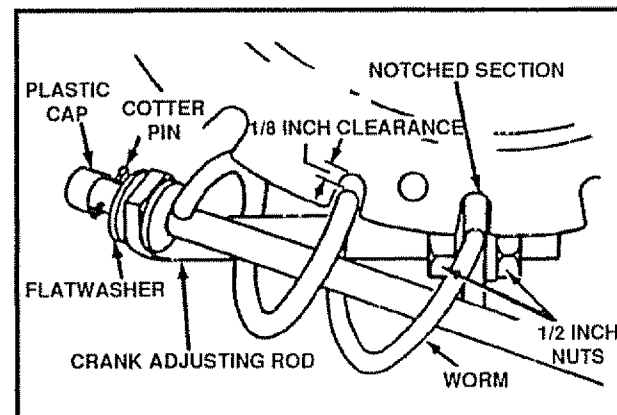

FIG. 5
- Remove the plastic bag, the plastic cap, the cotter pin and the washer from the crank assembly and set aside (See Fig. 5)
- Rotate the notched section of the discharge chute toward the crank-adjusting rod (See Fig. 5)
- Install the wormed end of the crank through the hole in the adjusting rod and secure the end with the flatwasher and cotter pin, as shown in Fig. 5
- Rotate the chute crank fully clockwise and fully counter-clockwise. The discharge chute should rotate fully with approximately 1/8 inch clearance between the worm and the bottom of the notch (See Fig. 5)